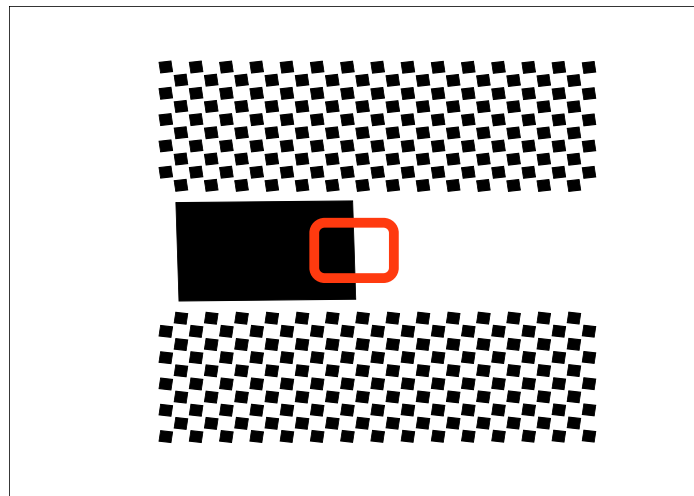

Figure 27: Where to place your autofocus sensor
6. Aim the AF sensor reticule so that it straddles the reference edge (see Figure 27). Take care that the autofocus sensor is sufficiently far away from other edges (e.g., the horizontal edges of the reference block in Figure 27, or any of the small blocks). Keep in mind that the actual sensing area of the autofocus sensor is typically larger than the reticule you see in the viewfinder, so leave some padding.